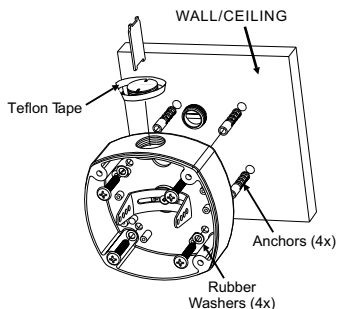

Figure 4 -- Mounting housing to wall or ceiling.
2. Drill holes for the four mounting screw anchors. Insert the screw anchors and attach the housing to the screw anchors. (See Figure 4.)
3. Wrap the conduit fitting threads with Teflon tape before installing them. (Teflon tape is not supplied.) (See Figure 4.)